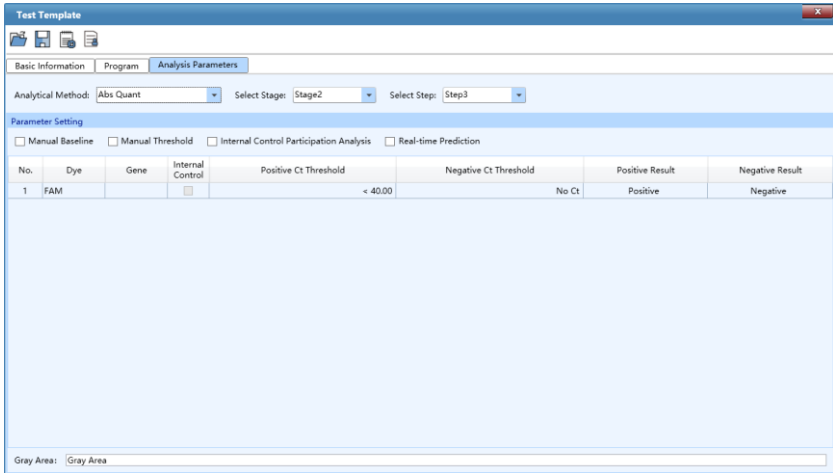

Figure E-3.5c Test Template Interface – Abs Quant Analysis Parameters
- **Analysis Parameters** tab: It consists of two parts: **Analysis Options** and **Parameter Setting**, as shown in figure E-3.5c.
- **Abs Quant:** It displays the parameter settings of *Abs Quant* analytical method by default, as shown in figure E-3.5c. The settable parameters are shown in the following table: